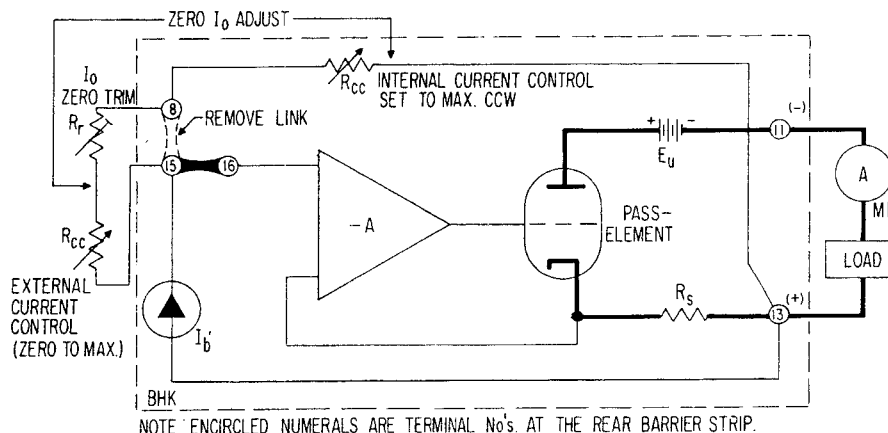

FIG. 3-11 SETUP FOR PRECISION PROGRAMMING RATIO ADJUSTMENT, CURRENT MODE.
- d) No internal zero adjustment is provided in the current mode amplifier; a negative offset in the millivolt range is present. For precision external programming in the current mode of operation, this offset may be zeroed by the insertion of a small trimming resistor in series with the CURRENT ADJUST control. The internal CURRENT ADJUST on the front panel now functions (with the additional external trim resistor) as a zero control. A setup is illustrated with this additional resistor (100Ω) in place (see FIG. 3-11) and an external current control connected. While the internal R_{CC} and the trim rheostat R_T set the zero point of I_o , the external R_{CC} sets the maximum point of I_o . This concludes the programming ratio adjustment in the current mode. Careful adjustment will yield excellent linearity.